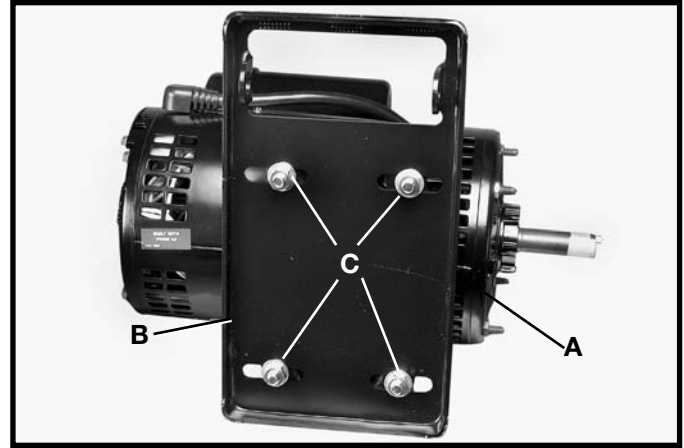

Fig. 12
1. Assemble the motor (A) to the motor mounting plate (B) as shown in Fig. 12, using four 5/16" carriage bolts, flat washers, star washers, and hex nuts (C). Assemble bolts through holes, assemble flat washers, star washers and hex nuts.